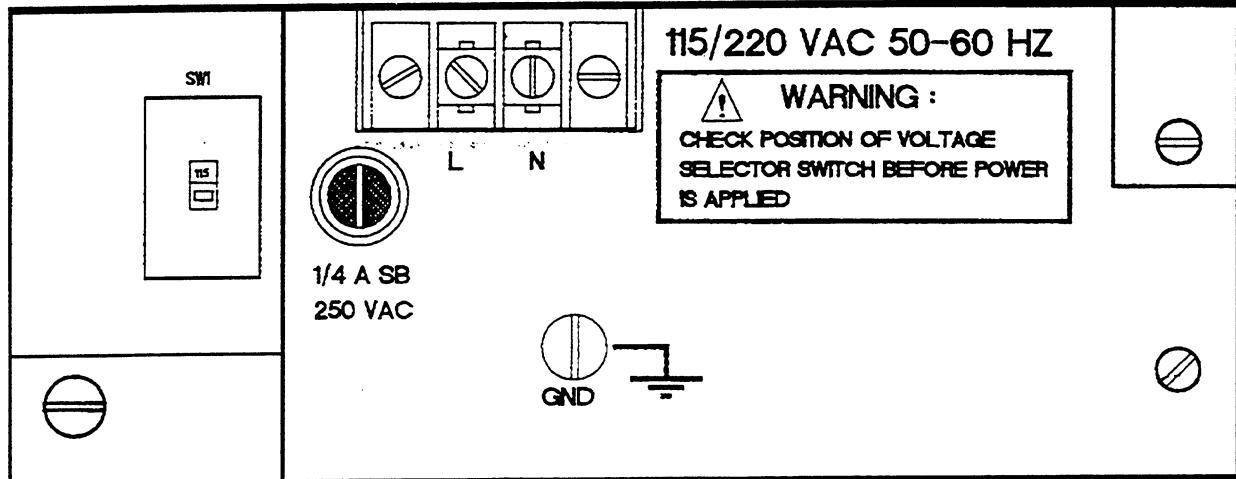

Figure 2-4. Ac Power Connections and Fuse
2.3.3 Mains (AC) Power (Figure 2-4)
A screw terminal is provided for permanent transmitter power connection. All units are shipped from the factory configured for 115 Vac operation. To select 230 Vac operation, change SW1 on the base or 'mother' board (see Figure 2-4) to the 230V setting. The unit will operate within specification at 50 or 60 Hz. Before connecting power to the unit, verify that the proper power selection has been made. The two position terminal block is equipped with a clear plastic cover to prevent operator injury. Cable can be either solid or stranded 12 or 14 gage with a ground conductor.